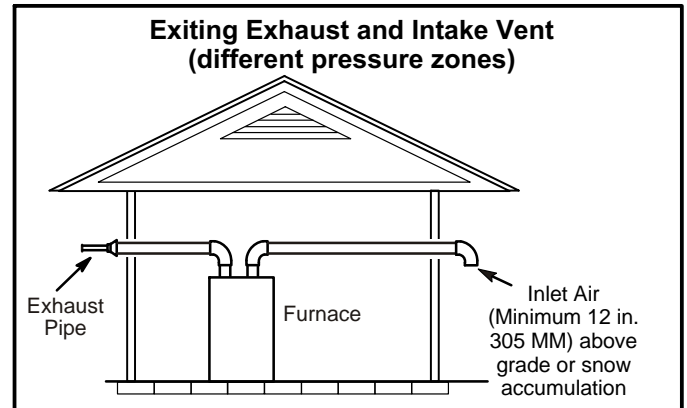
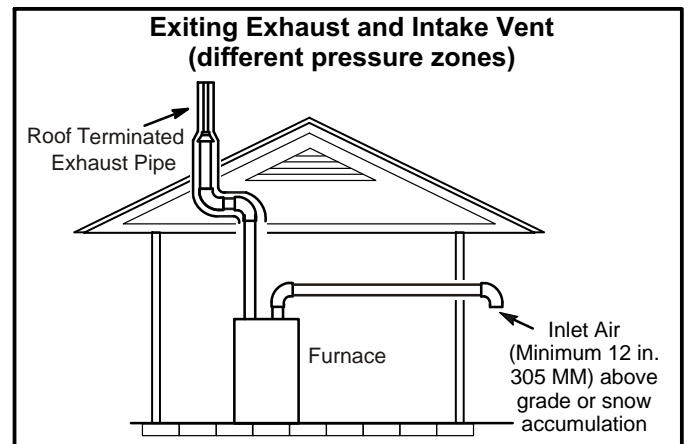

FIGURE 29
FIGURE 30
1. Intake and exhaust terminations are not required to be in the same pressure zone. You may exit the intake on one side of the structure and the exhaust on another side (figure 29). You may exit the exhaust out the roof and the intake out the side of the structure (figure 30).